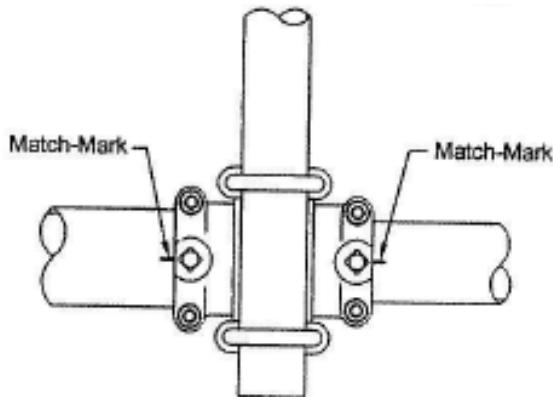

Figure 11: Match-Marked Hinge Clamp and Pipe
- Adjust "lead" by elevating the Blade slightly - **Figure 11.**